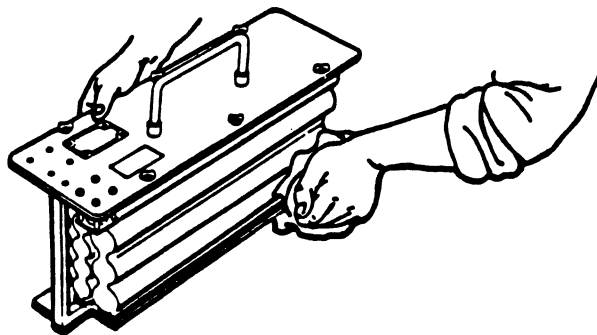

Fig 5-2. Wiping battery assembly.
2. Wipe the battery assembly with the wet wiping rag (fig 5-2).